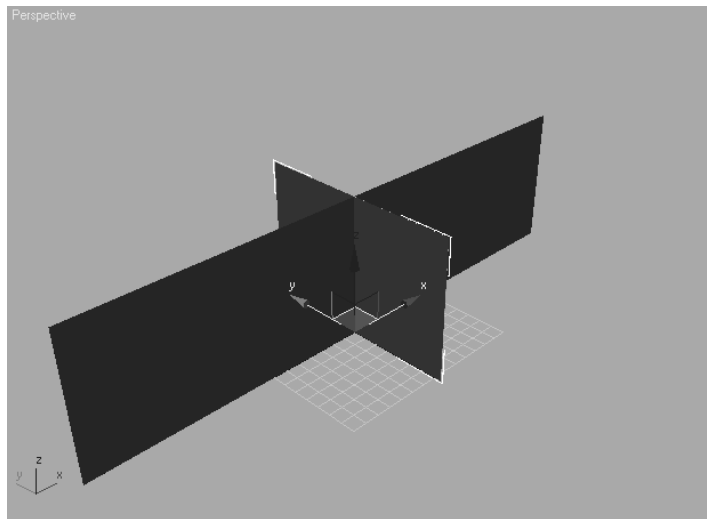

Figure 5.1
7. Move this box to the origin as well. The Perspective viewport should look similar to Figure 5.1.